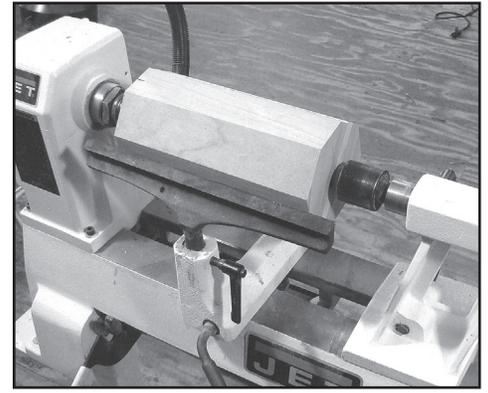

Fig. 9
1. Mark out centers on each end of the blank. Mount it between the spur center and tail stock. Fig. 9.